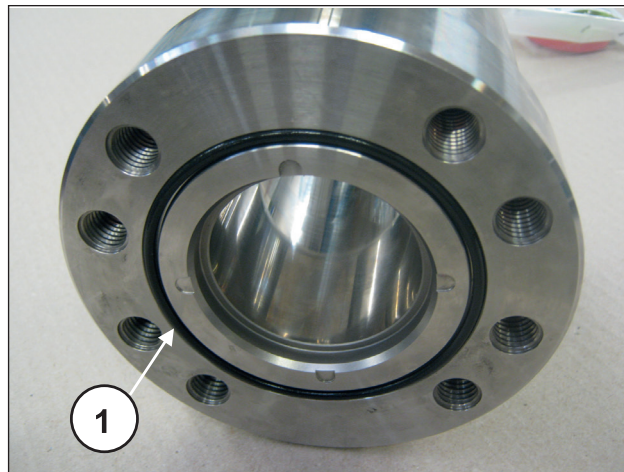
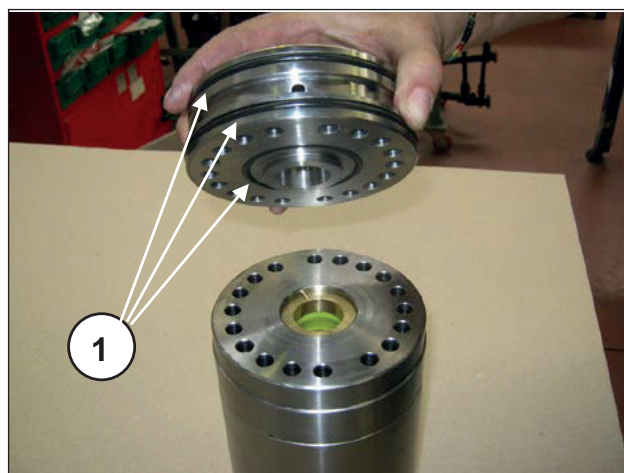

Fig. 179
Fig. 180
At every valve inspection, replace the sealing rings and the O-rings between the liner and the head (pos. ①, Fig. 179), and on the L.P. seal support frontally in the recirculation hole zone (pos. ①, Fig. 180). Before reassembly, clean and dry off the components and all their seats inside the head.